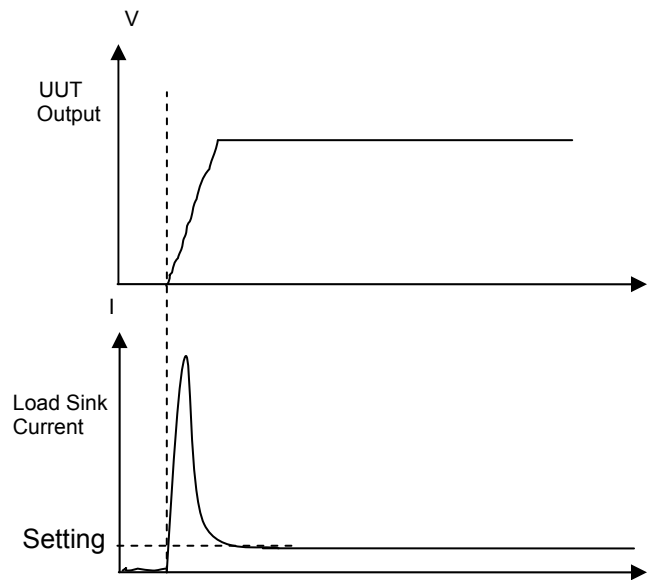

Figure 3-16 When Von Point is set to 0V without Protection
- (1) When it is "LOAD ON", VON POINT is set to 0V and Von Protection is disabled, the DC LOAD will occur overshoot when the SW is turned off. It will damage the UUT and DC Load as Figure 3-16 shows.